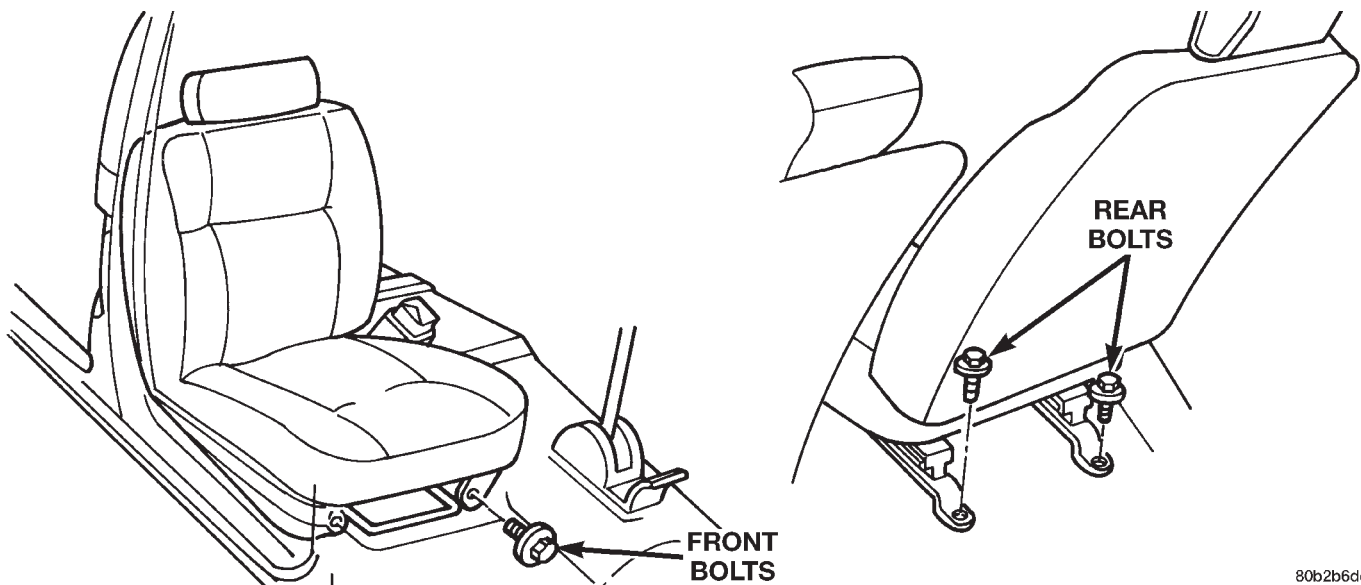

Fig. 1 Front Seat Removal
- (1) Position seat far enough forward to gain access to rear mount bolts on floor.
- (2) Remove bolts holding rear of seat track to floor (Fig. 1).
- (3) Slide seat rearward.
- (4) Remove bolts attaching front of the seat track to floor kick up.
- (5) Disconnect front seat wire harness connector from body harness connector.
- (6) Remove front seat from vehicle.